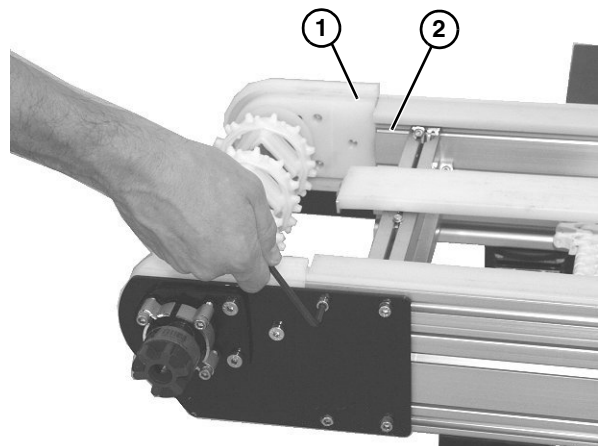

Figure 34
*When reinstalling the drive spindle tail assembly, the terminal assembly (**Figure 34, item 1**) should mate flush with the conveyor frame (**Figure 34, item 2**).*